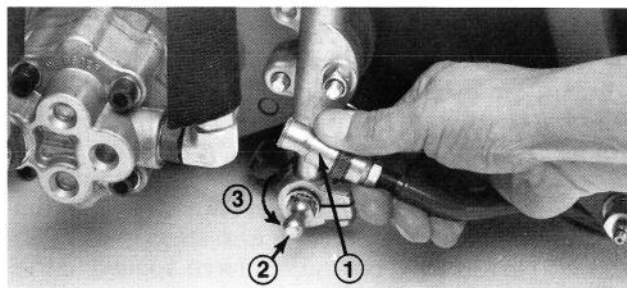

Figure 10
5. Slide the sleeve back on the ball joint and rotate the pull arm down so the socket fits over the ball stud. Release the sleeve so it slides over the stud and locks the assemblies together (Fig. 10).